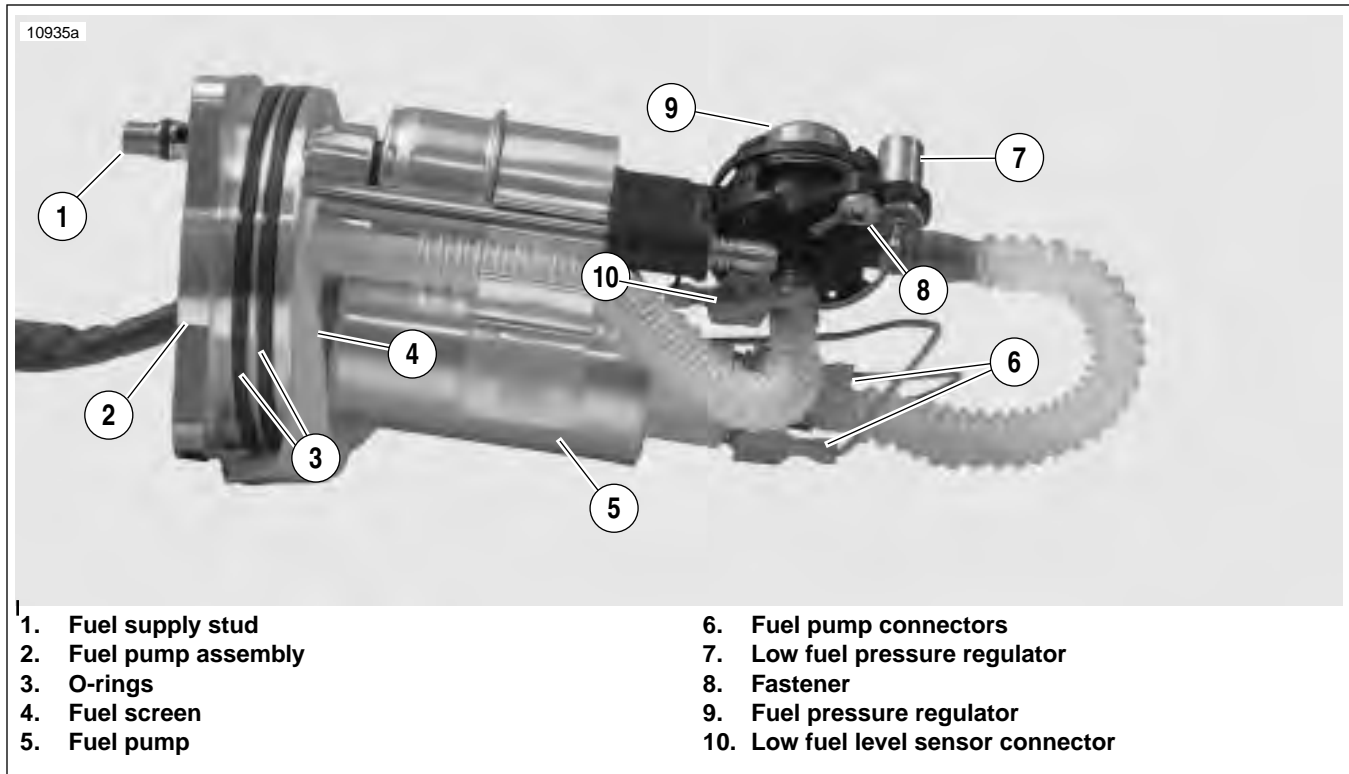
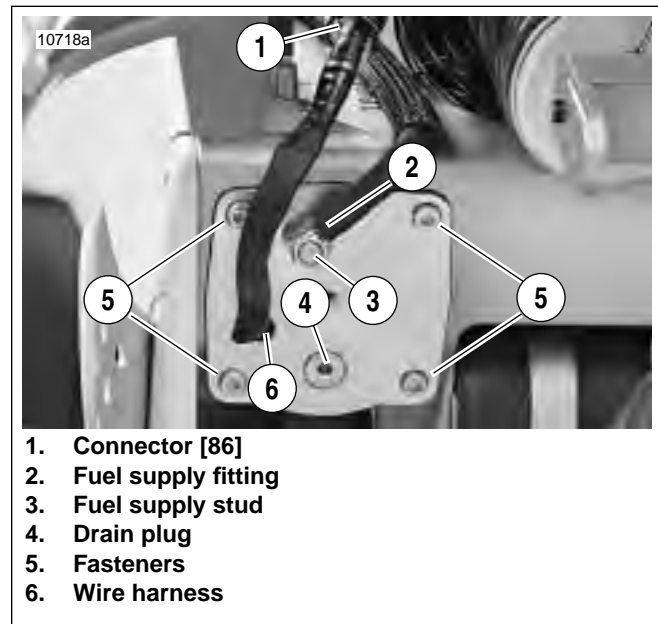

Figure 4-96. Fuel Pump Assembly
Figure 4-101. Fuel Pump Location
2. See Figure 4-96. Disconnect low fuel level sensor connector (10).
3. Remove screw (8) securing low fuel level sensor (7) in place.
5. Install screw (8) securing sensor and tighten to 18-22 **in-lbs** (2.0-2.5 Nm).
6. Attach low fuel level sensor wire connector (10).
1. See Figure 4-96. Replace o-rings (3). Lubricate **new** o-rings with **clean** engine oil.
2. Install **new** o-rings on fuel supply stud (2). Larger o-ring is located in groove closer to fuel pump.
3. See Figure 4-101. Insert fuel pump into frame until resistance is felt.
4. Insert four screws (5) through fuel pump and into frame.